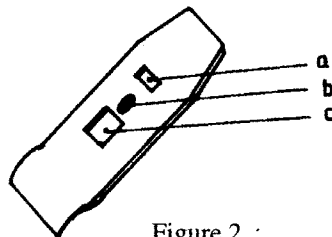

Figure 2
- 5 Figure 2 shows a component of a jackplane.